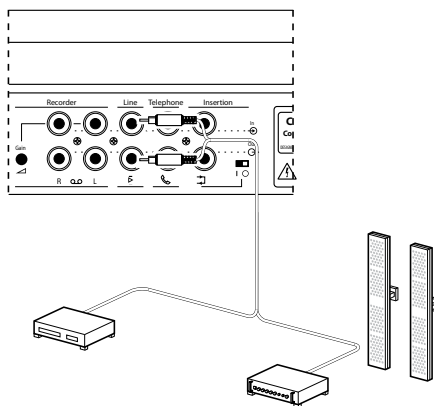

Fig.6
Il collegamento ad un sistema PA o ad altra apparecchiatura audio (fig.6) si effettua mediante l'ingresso e l'uscita RCA (10) posti sul pannello posteriore dell'unità di controllo. Collegare la sorgente audio all'ingresso Line; il sistema PA o altro dispositivo all'uscita Line.
The connection of a PA system or other audio equipment (fig.6) is possible through the in and output line connector (10) on the rear panel of the Central Unit. Connect audio sources to the line input, a PA amplifier or other sound-processing devices to the line output.
The connection a PA system or other external equipment (fig.6) is possible through the insertion connector (12) on the rear panel of the Central Unit. Put the insertion switch in position "0" and connect the cablings to the insertion input and output (12) of the Central Unit. Switch must be in position "1" (loop through) if the insertion input/output is not used.